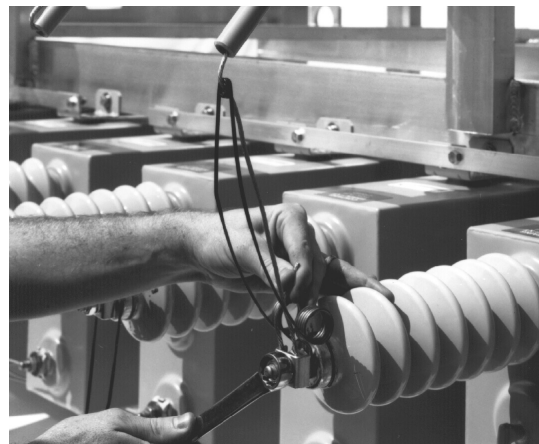

Figure 7.
- D. Wrap the end of the fuse link lead wire around the threaded stud of the capacitor terminal (between the heavy hex nut and the clamp) (Figure 7). Place the lock washer on top of the clamp taking care to assure the split in the washer is not aligned with the open end of the clamp. Tighten the outer nut using a torque of 16 to 19 ft-lb (21.7 to 25.8 N-m).